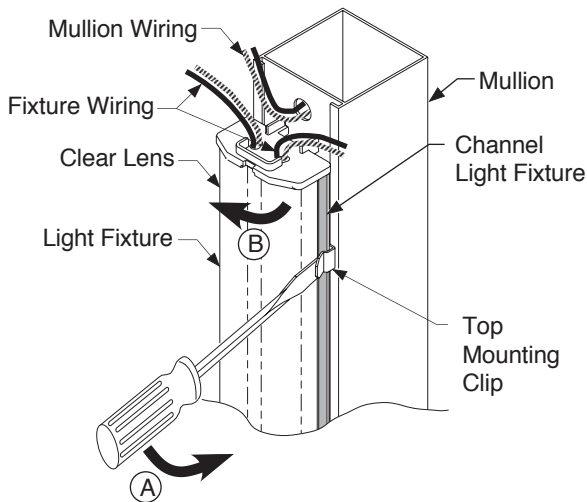

Figure 1. Remove LED Fixture
- A. Refer to Figure 1 below. With one hand, insert a flat blade screwdriver between the channel light fixture and the mounting clip.